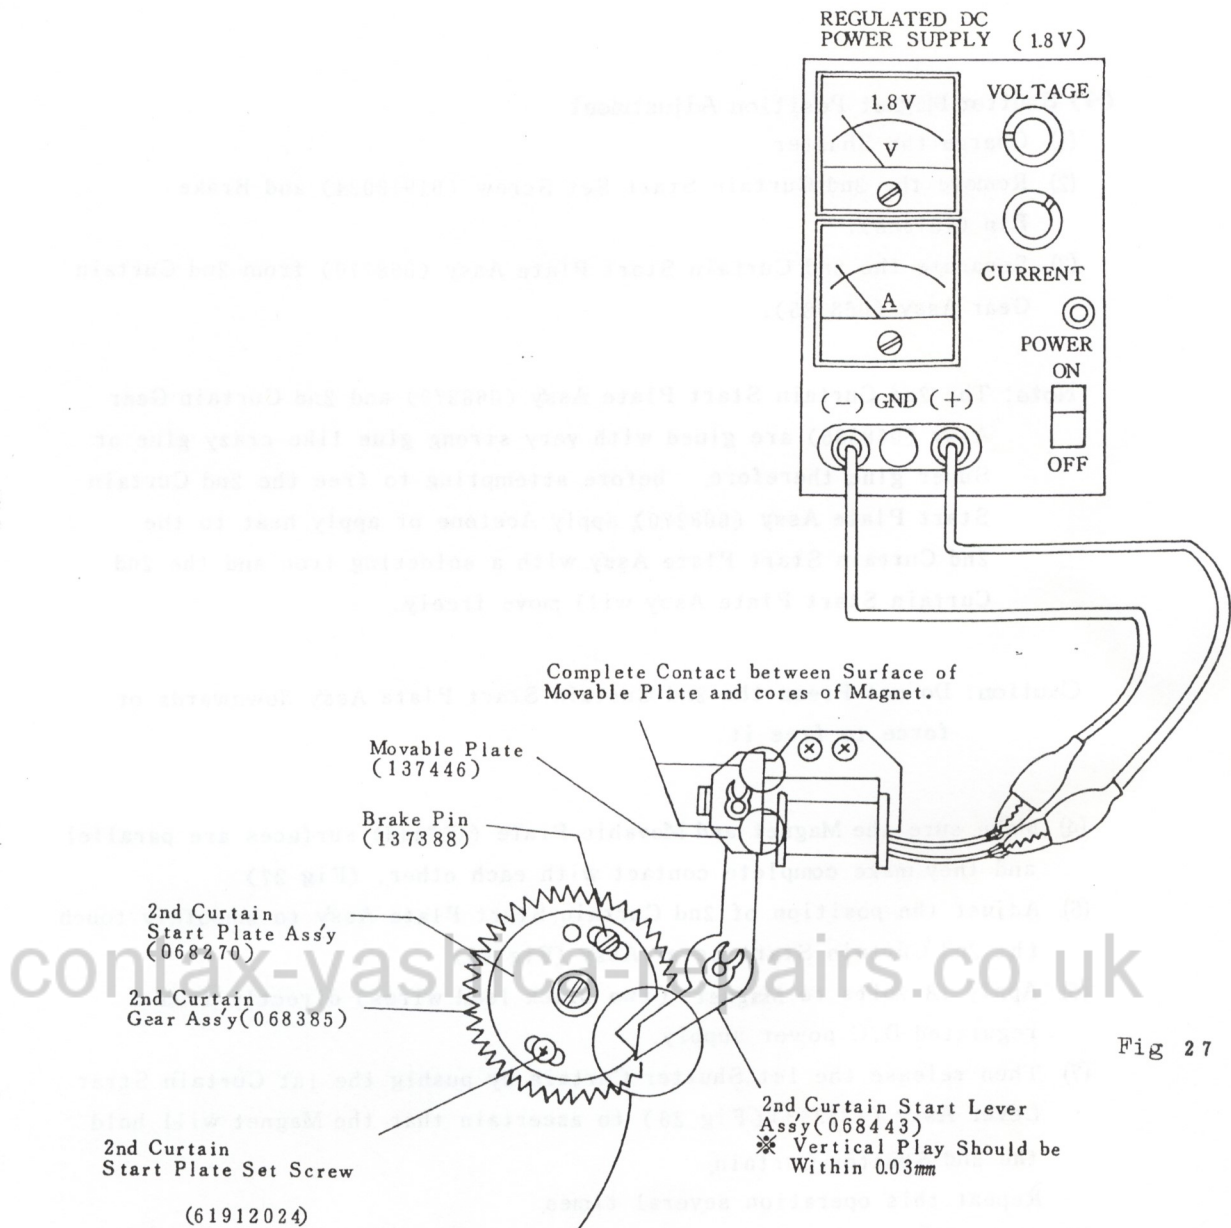

Fig 27
- (4) Make sure the Magnet and Movable Plate (137446) surfaces are parallel and they make complete contact with each other. (Fig 27)